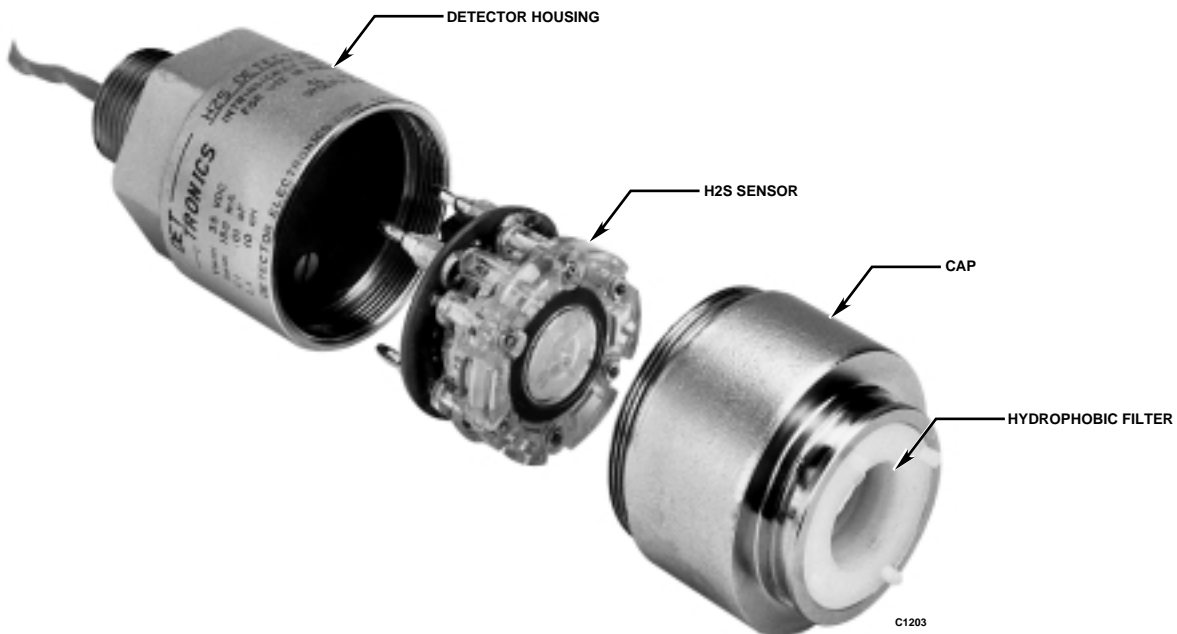

Figure 6—C7064E Detector
6. After confirming that all connections are properly terminated and other installation requirements such as conduit seals are installed as required, the sensor may be installed within the C7064E detector. Begin by removing the cap from the detector housing. Refer to Figure 6.
2. Remove the cap from the detector housing. See Figure 6. (There is no need to remove the detector housing from the junction box.)